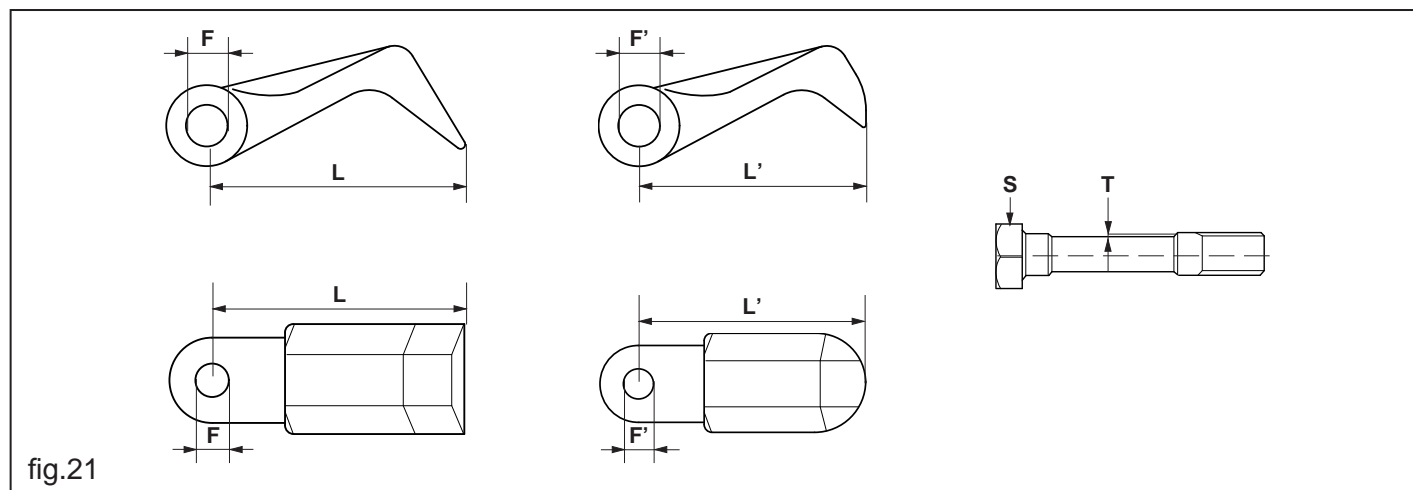

fig.21
- The diameter of fixing hole «F» must not be ovalized more than 2 mm in relation to the original diameter (fig.21).
- Length «L» of the knives must not be allowed to become more than 15 mm shorter than the original length (fig.21). The pins must be replaced if:
- Wear «T» on pin exceeds 2 mm (fig.21).